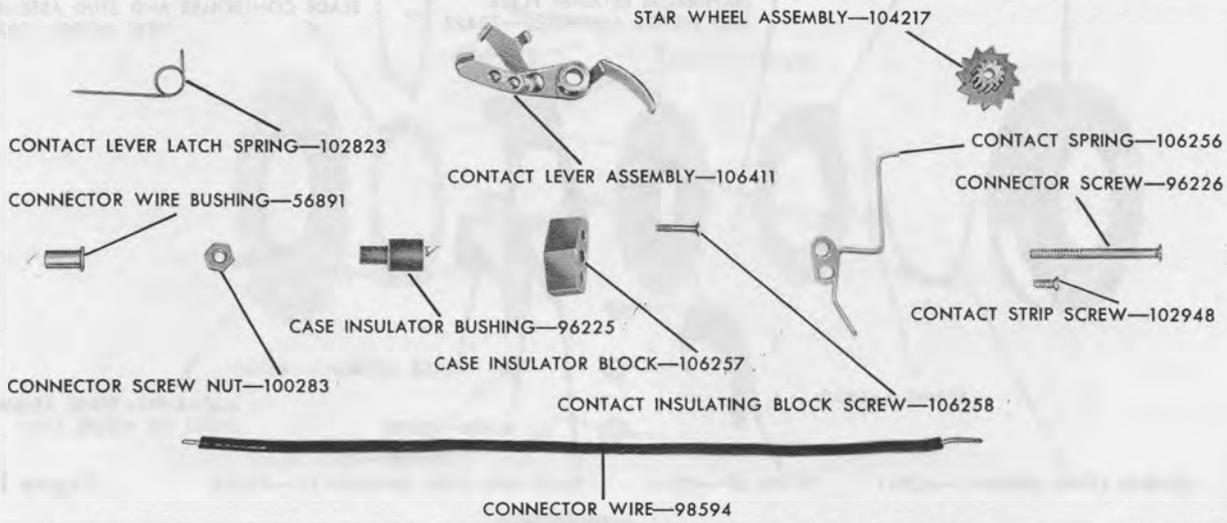

Figure 13
14. BLADE CONTROLLER, figure 13.
3. BLADE WITH DOUBLE BLADE BUSHING and stud, figure 13, with the hole in the blade over the stud on the mechanism plate, near the BLADE CONTROLLER LUG, figure 26. Refer to figure 15 for positioning of the shutter blade.
4. Proceeding counterclockwise, replace four BLADES WITH STUD, figure 13, allowing the wide end of each blade to overlap the narrow end of the preceding blade.
\*DISCONTINUED—REPLACE WITH KIT NO. 121352—REFER TO FIGURE 13